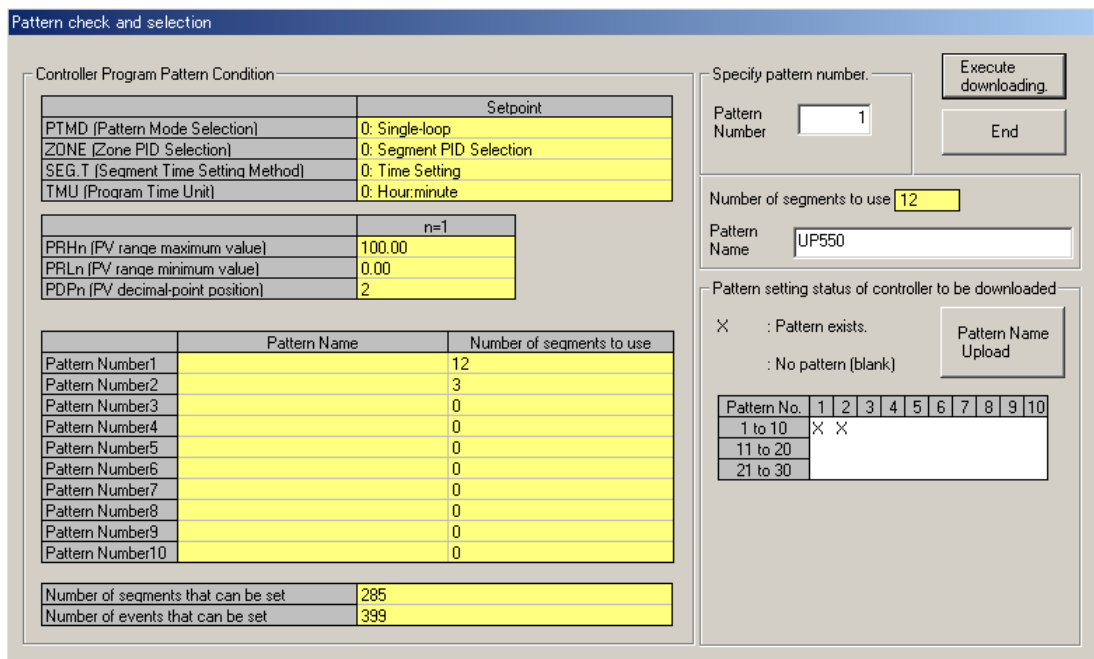

Figure 12.2.2 Pattern Check and Selection Dialog Box (Download)
- (2) Click **Front communication**.
- (3) From the **Serial Port** list, select a communication port of the personal computer (COM1 to COM16).
- (4) Connect the controller to the personal computer, and then click **OK**.
- (5) When communication is established, the Pattern Check and Selection dialog box (Figure 12.2.2) appears, showing the program pattern setting status of the controller.
- (6) Connect the controller to the personal computer, and then click **OK**.
- (7) When communication is established, the Pattern Check and Selection dialog box (Figure 12.2.2) appears, showing the program pattern setting status of the controller.
- (8) Enter the pattern number in the **Pattern Number** box and click **Execute downloading**.
- (9) When downloading is complete, a message appears to notify you it is complete.
- (2) Click **Terminal communication**. (This means to use the communication terminals at the rear of the controller.)
- (3) Click **Ethernet communication**.
- (4) Set the target controller's IP address and RS485 communication address in the **IP Address** text box.
- (5) Set the target controller's port number in the **Port No.** text box. The port number can be set in decimal or hexadecimal.